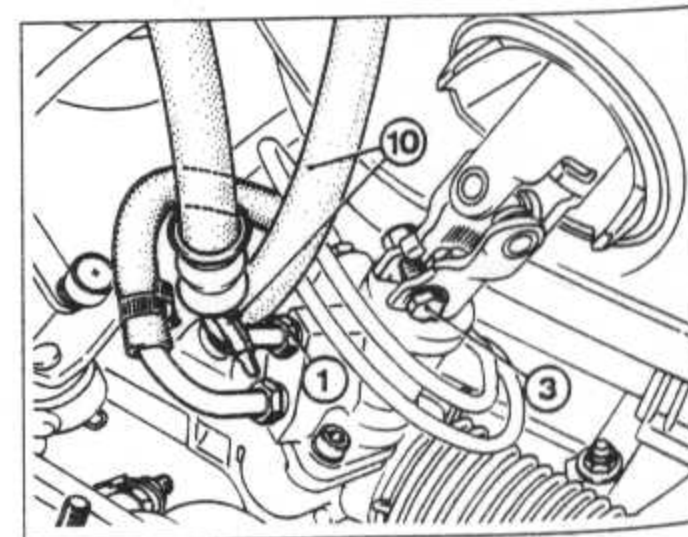

Fig. 13.63 Correct refitting of power steering gear (Sec 18)
- (d) When reconnecting the fluid pipes to the steering gear, the high-pressure fluid pipe (Fig. 13.63) must be vertical.
- (e) Secure the hose (10, Fig. 13.63), to the high-pressure fluid pipe using a cable tie.